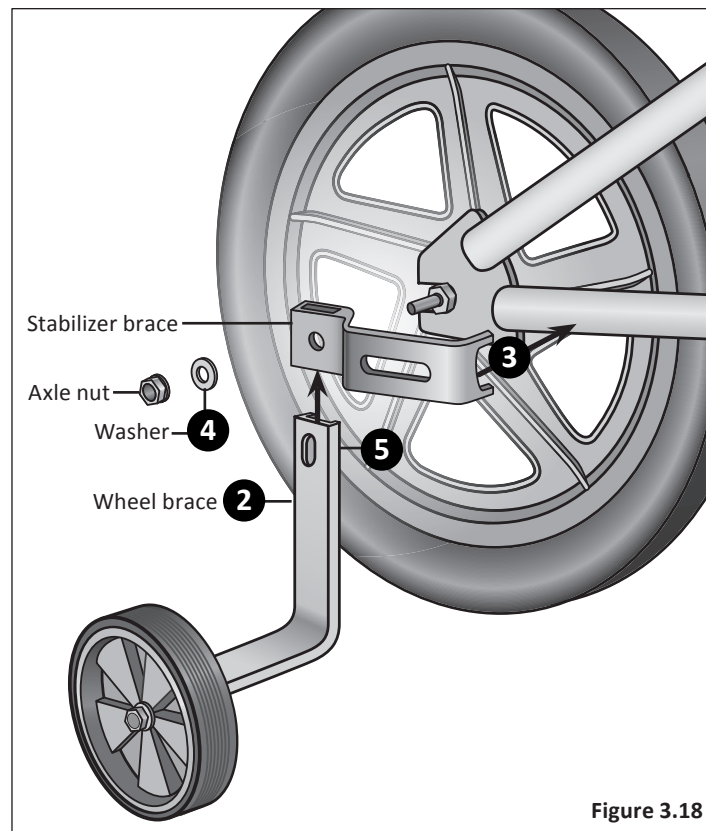

Figure 3.18
- 1 Remove the outer axle nut and washer from the rear wheel axle. **Figure 3.18**